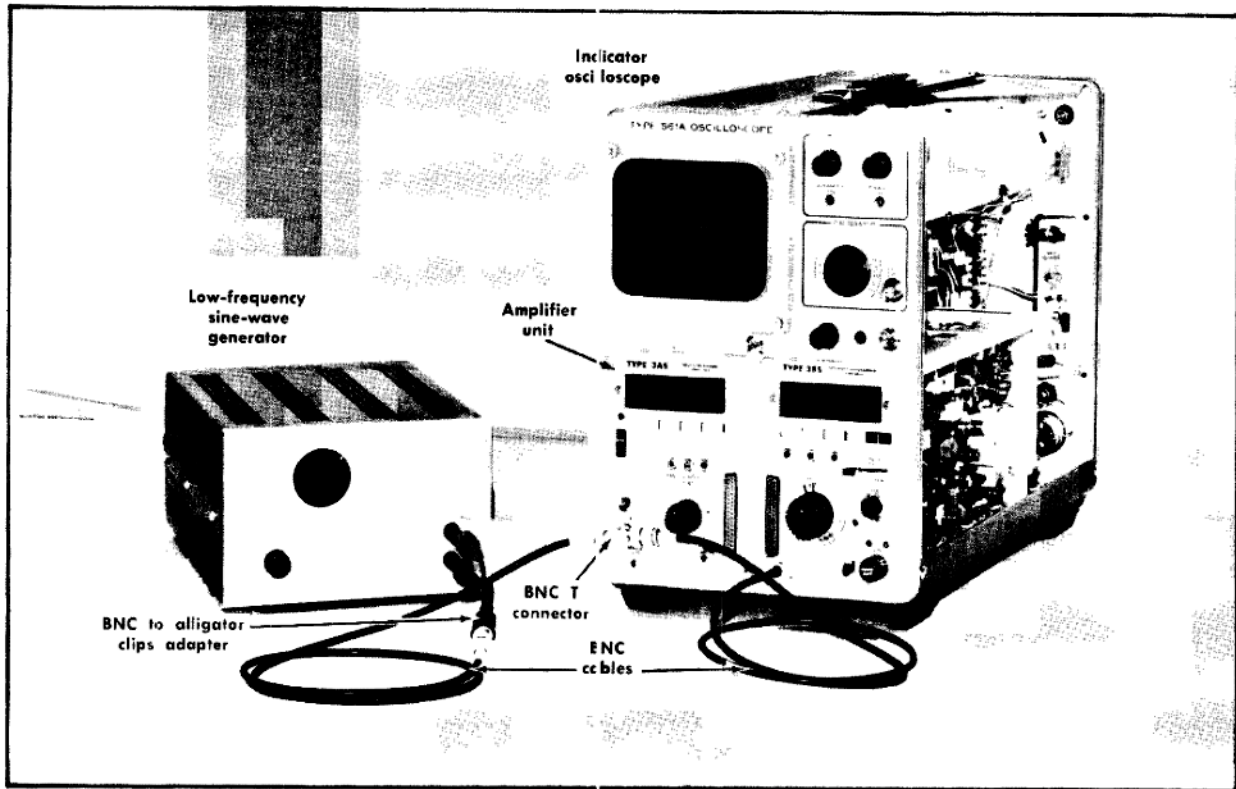

Fig. 6-2. Initial equipment setup for steps 1—5.
- a. Test equipment setup is shown in Fig. 6-2.